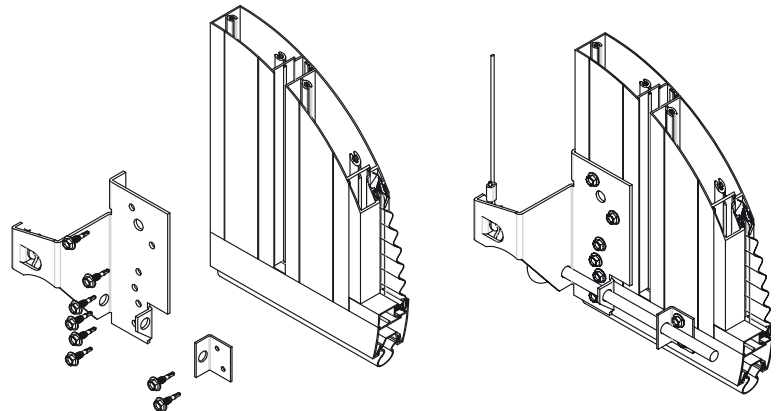

Fig: 5.2.1
- a) Secure the bottom hanger and bottom panel bracket to the bottom panel with tek screws as shown in Fig 5.2.1.